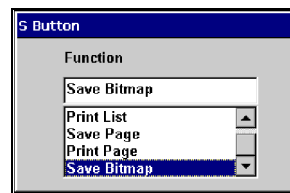

Figure 5-88 Sample S Button dialog box
2. Press **Y/✓** to open the drop-down list (Figure 5-88).